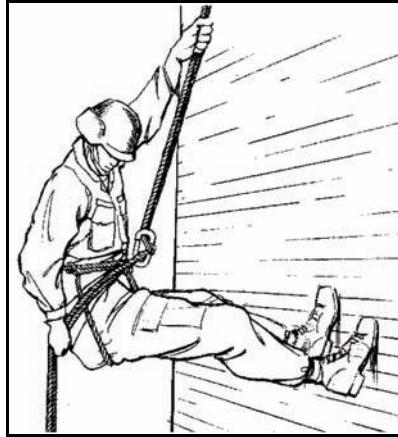

Figure 1-9. L-shape position while rappelling.
- The rappeller maintains a modified L-shape position during descent with the feet shoulder-width apart, knees flexed, and buttocks parallel to the ground (Figure 1-9).